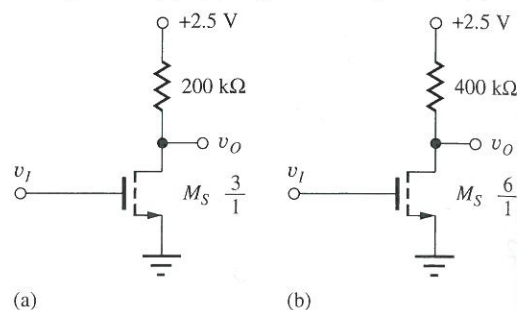

Figure P6.39
- 6.39. (a) Find V_H , V_L , and the power dissipation (for $v_O = V_L$) for the logic inverter with resistor load in Fig. P6.39(a). (b) Repeat for Fig. P6.39(b).
- 6.42. A manufacturing problem caused $V_{TN} = 0.8$ V instead of 0.6 V for the inverter in Fig. P6.39(a). (a) What are the values of V_H , V_L , and power dissipation? (b) Repeat for $V_{TN} = 0.4$ V.
- 6.43. (a) What are the noise margins for the circuit in Fig. P6.39(a)? (b) Fig. P6.39(b)?
- 6.44. (a) Find V_H , V_L , and the power dissipation (for $v_O = V_L$) for the logic inverter with resistor load in Fig. P6.39(b). (b) A manufacturing problem caused $V_{TN} = 0.5$ V instead of 0.6 V. What are the new values of V_H , V_L , and power dissipation? (c) Repeat for $V_{TN} = 0.7$ V.
- 6.46. (a) What are the noise margins for the circuit in Fig. P6.39(b)? (b) What value of W/L will result in $N_{ML} = 0$ for the resistive load inverter in Fig. P6.39(b)?